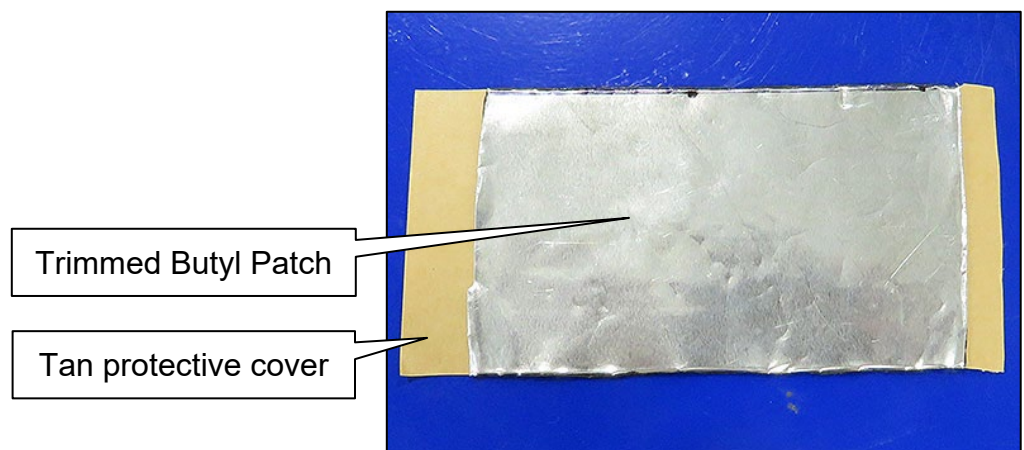

Figure 5
- Figure 5 shows one (1) of three (3) finished Butyl Patches.
6. Peel the tan protective cover (Figure 5 on page 3) away from the adhesive of Butyl Patch #1, and then carefully apply it to the door seal surface, as shown in Figure 7.
19. Peel the tan protective cover (Figure 5 on page 3) away from the adhesive of Butyl Patch #2, and then carefully apply it to the door seal surface, as shown in Figure 17.
32. Peel the tan protective cover (Figure 5 on page 3) away from the adhesive of Butyl Patch #1, and then carefully apply it to the door seal surface, as shown in Figure 26.